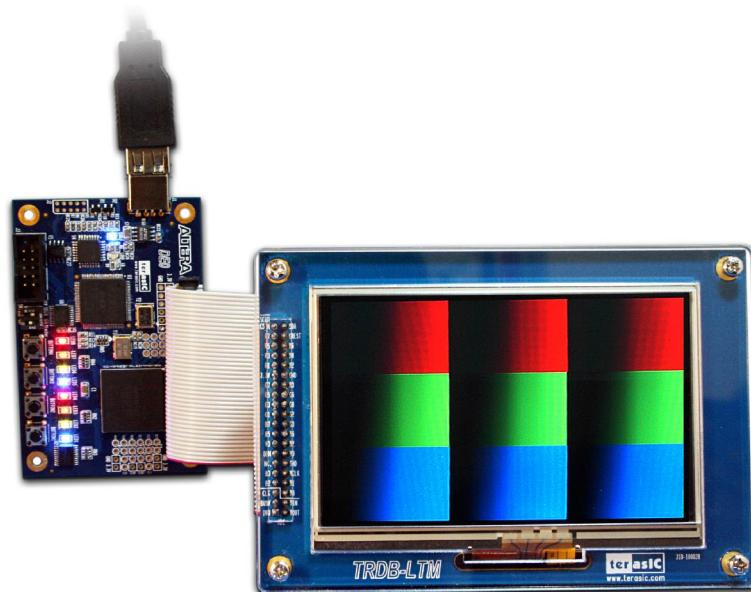

Figure 4.16. The connection setup for the pattern generator demo with DEN board
1. Ensure the connection is made correctly as shown in Figure 4.16. Make sure the IDE cable is connected to the extension header of the DEN board